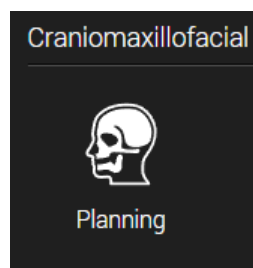

Figure 2 *Craniomaxillofacial planning* button within the Origin Server Interface.
2. Activation of the Plugin *Craniomaxillofacial planning* (Fig. 2)